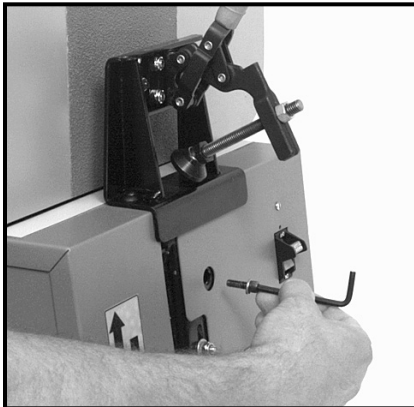

Fig. 9
1. Place the (1/4"-20 x 1/2" long, flat head), motor mounting screw onto the 5/32" hex wrench (see Fig. 9).
2. Position the screw through access hole in the top of cabinet (see Fig. 9), and into the hole in the motor mounting bracket. Hold screw and wrench in this position.